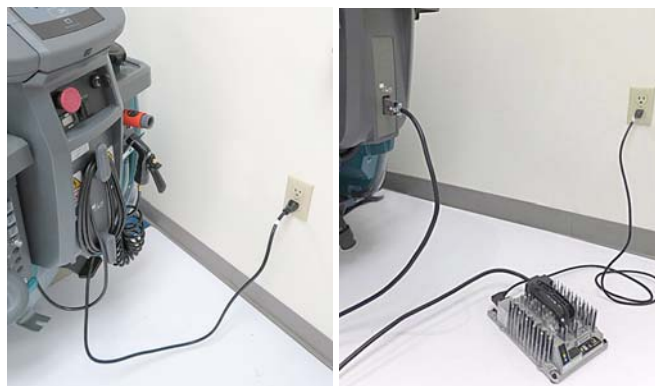

FIG. 106
13. Charge batteries (Figure 106). See BATTERIES.